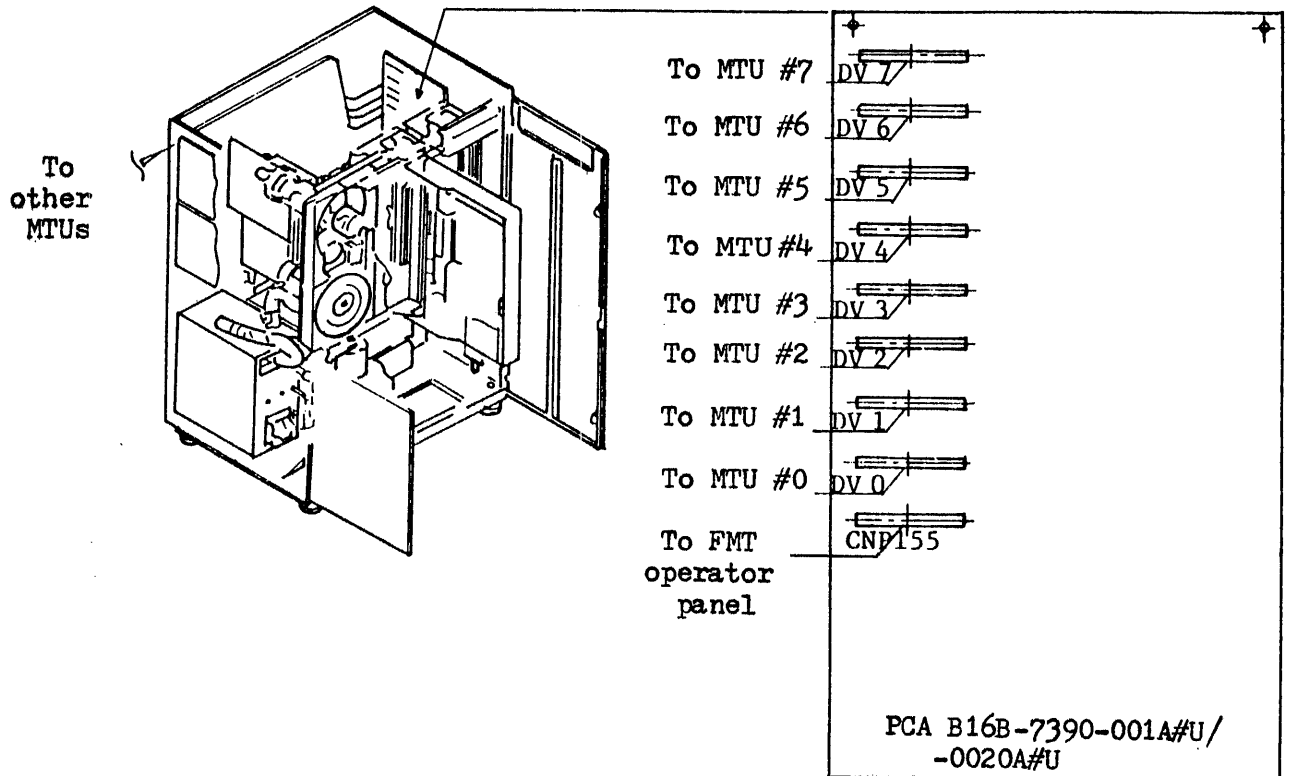
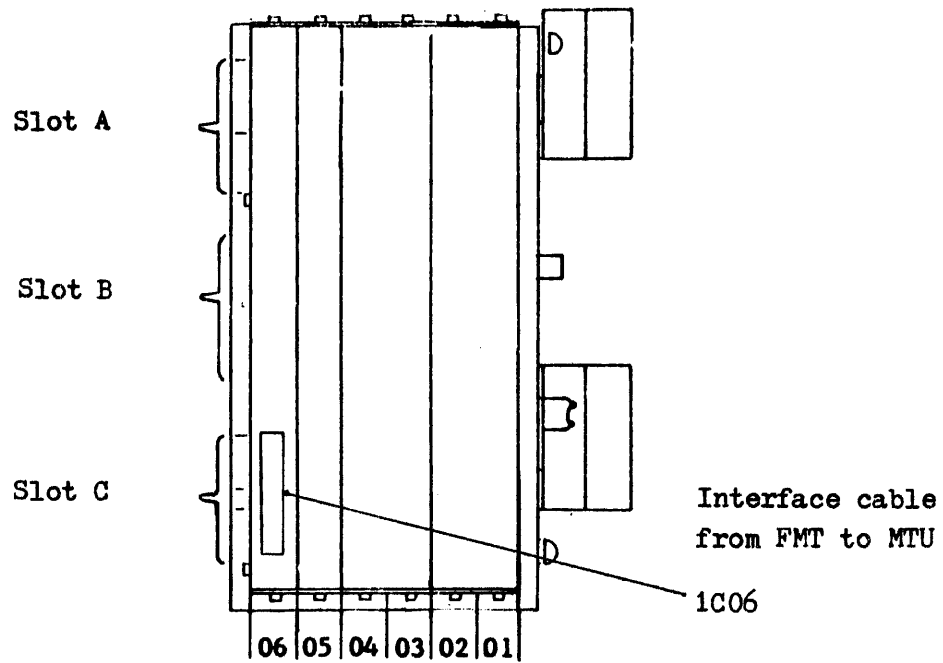
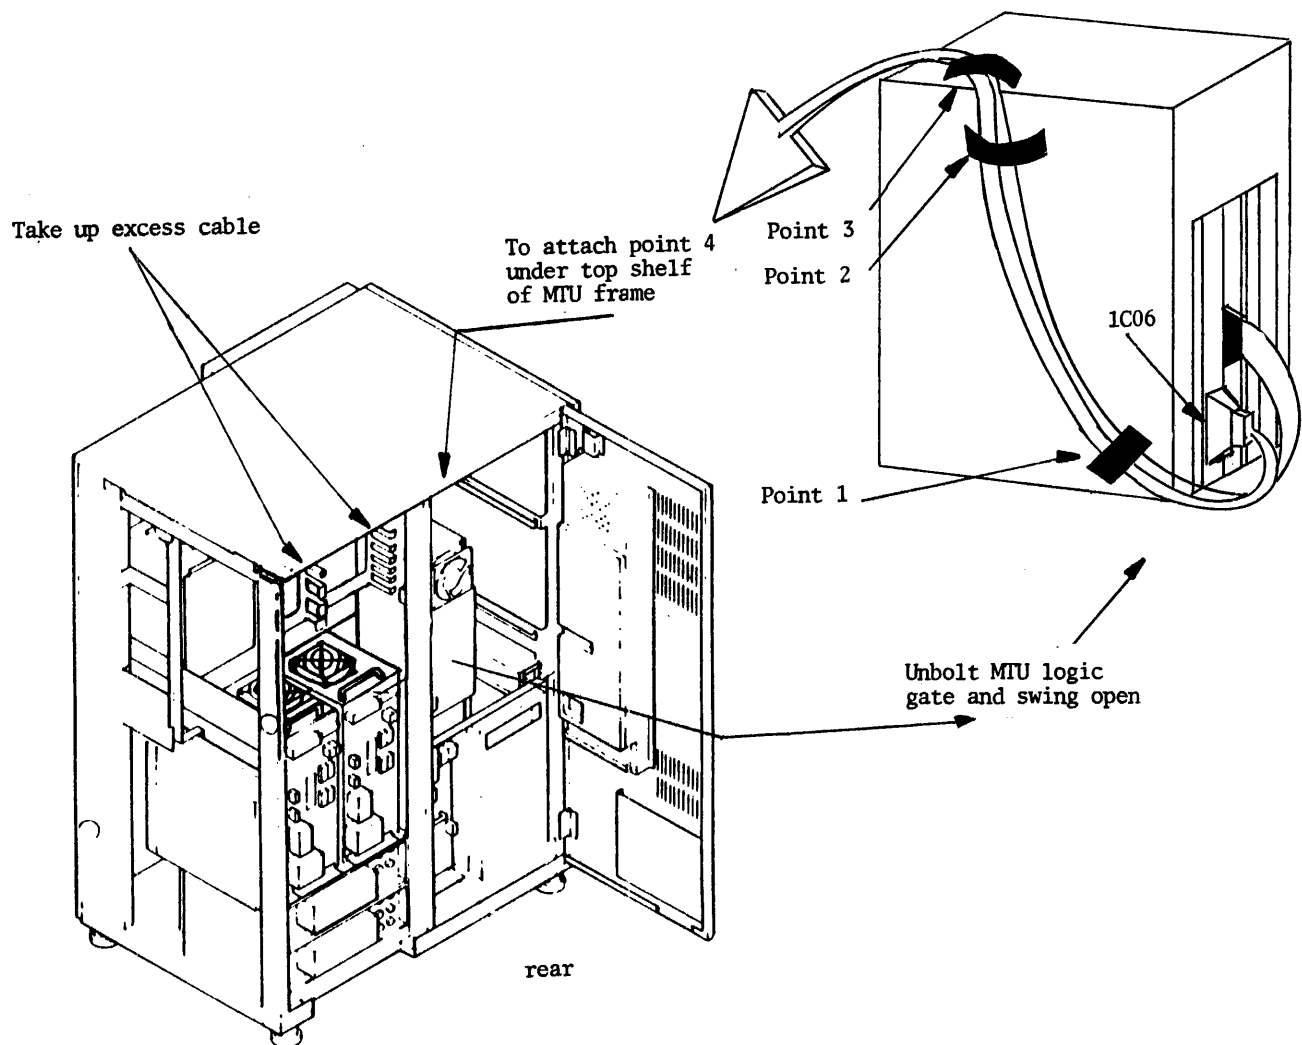

Figure 2-5. FMT/MTU interface cabling.
Figure 2-6. MTU PCA location.
Figure 2-7. FMT/MTU interface cable routing.
The physical connection is between the formatter distribution board shown in Figure 2-5 and the MTU 1C06 shown in Figure 2-6.
- (1) Confirm that the FMT and MTU are not connected to facility power.
- (2) Unbolt the MTU logic gate and card cage assembly of MTU #0 as shown in Figure 2-7.
- (3) Locate interface cable (B03B-5280-0912A) at 1C06, as shown in Figure 2-6.
- (4) Locate the route for the cable through attach Points #1 through #3 on the MTU logic gate, through attach Point #4 on the upper channel provided inside the MTU cabinet, and then to the FMT, as shown in Figure 2-7.
- (5) Locate the connection of the cable onto DV #0 on the interface distribution board (B16B-7390-0010A) in the formatter, as shown in Figure 2-5.
- (1) Confirm that the slave MTU(s) are not connected to facility power.
- (2) Unbolt the card cage of slave MTU #1 and swing open.
- (3) Install cable (B03B-5280-0913A) at 1C06 on slave MTU #1 as shown in Figures 2-6 and 2-7.
- (4) Route cable in the same manner as step 4, above.
- (5) Wind excess cable around the cable hangers located just below the top shelf on the rear of the master MTU, shown in Figure 2-7.
- (6) Install cable onto DV #1 for MTU #1 on the interface distribution board (B16B-7390-0010A) of the FMT. This connection is shown in Figure 2-5.
- (7) Repeat steps 1 through 6 to complete FMT/MTU #2 through #7 interface cabling.